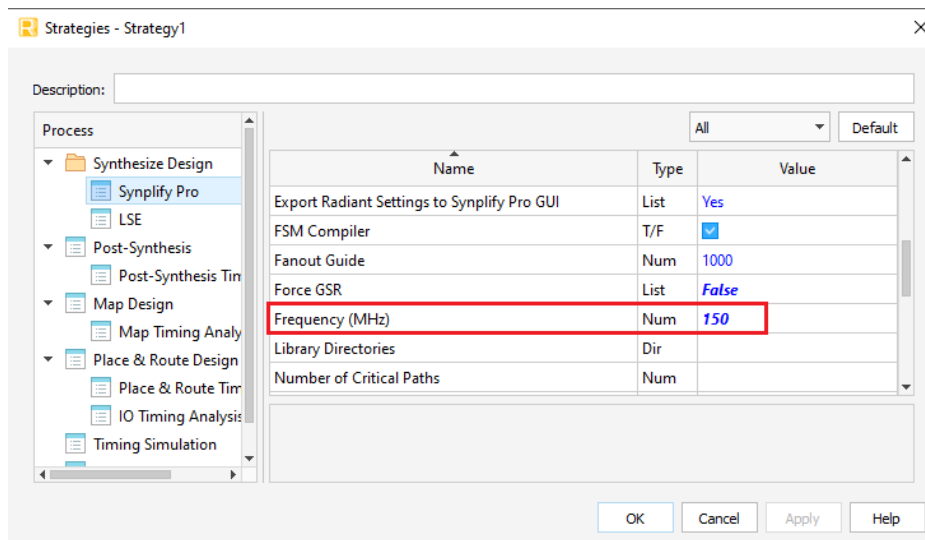

Figure C.90. Strategy for Build Generation for Node System
9. Change value of Frequency to **150 MHz** as shown in Figure C.90.